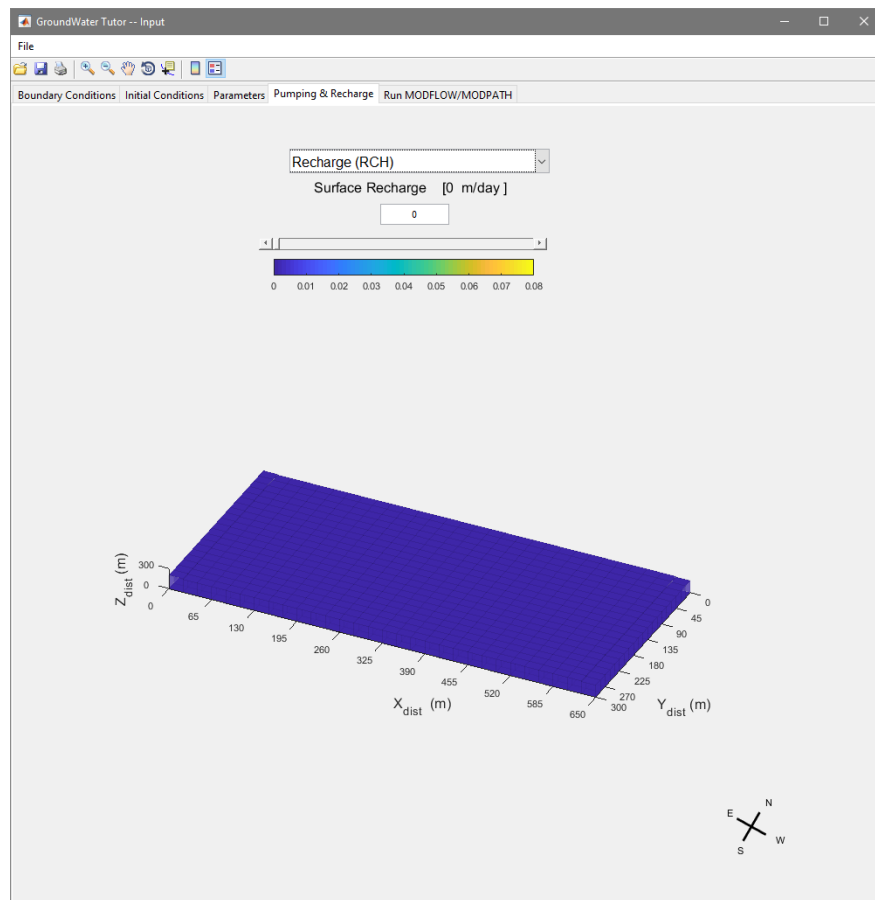

Figure 5. Pumping and Recharge tab from the GroundWaterTutor Input Window.
- **Pumping and Recharge** – See **Figure 5**. A single groundwater well is defined in this model and the rate water is extracted from this well can be modified. The rate of uniform areal groundwater recharge can also be adjusted.